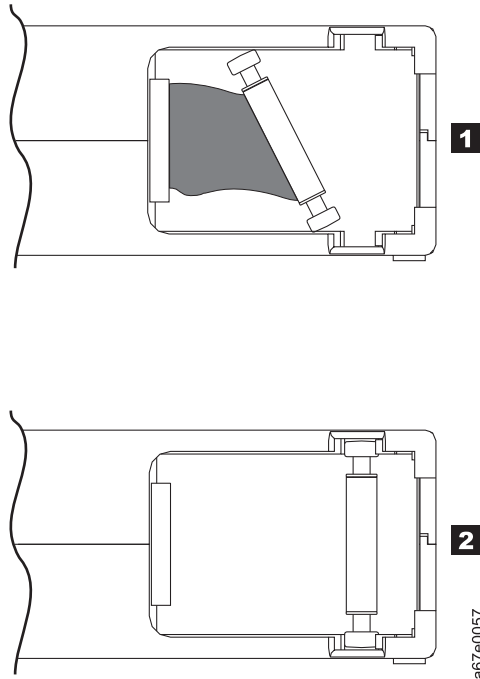

Figure 18. Leader pin in the incorrect and correct positions. The cartridge door is open and the leader pin is visible inside the cartridge.
- Check that the leader pin is properly seated (see **2** in Figure 18 on page 48).
- Do not drop the cartridge. If the cartridge drops, slide the cartridge door back and ensure that the leader pin is properly seated in the pin-retaining spring clips. See **2** in Figure 18 on page 48. If the leader pin becomes dislodged, go to “Repositioning or reattaching a leader pin” on page 47.
Improper placement of leader pin. See Figure 18 on page 48.
A leader pin that is improperly seated inside a cartridge interferes with the operation of the drive. Figure 18 on page 48 shows a leader pin in the incorrect **1** and correct **2** positions.